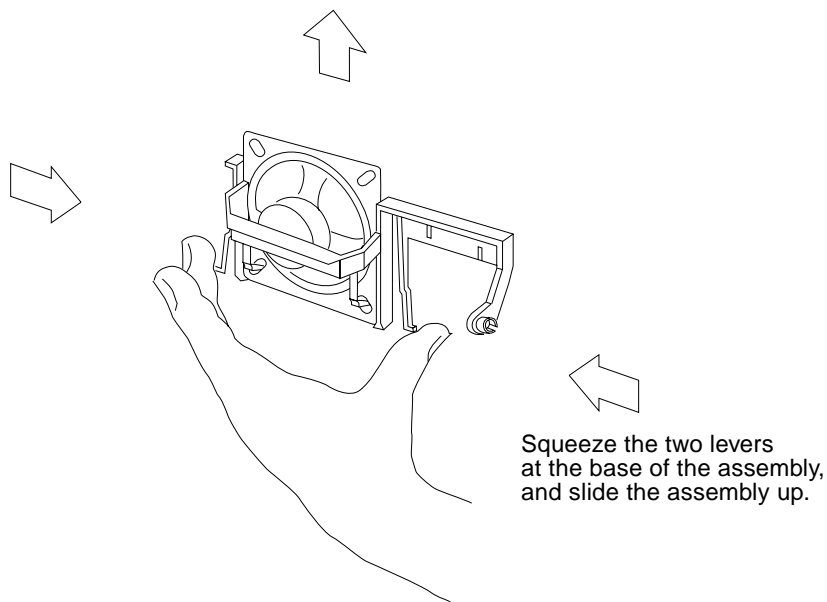

FIGURE 8-2 Removing and Replacing the Speaker/Power LED Assembly
3. Squeeze the speaker assembly where indicated in FIGURE 8-2 and slide it up and out of the system unit.
2. **Squeeze the replacement speaker assembly where indicated in FIGURE 8-2 and slide it down into its channel guides until it snaps into place.**